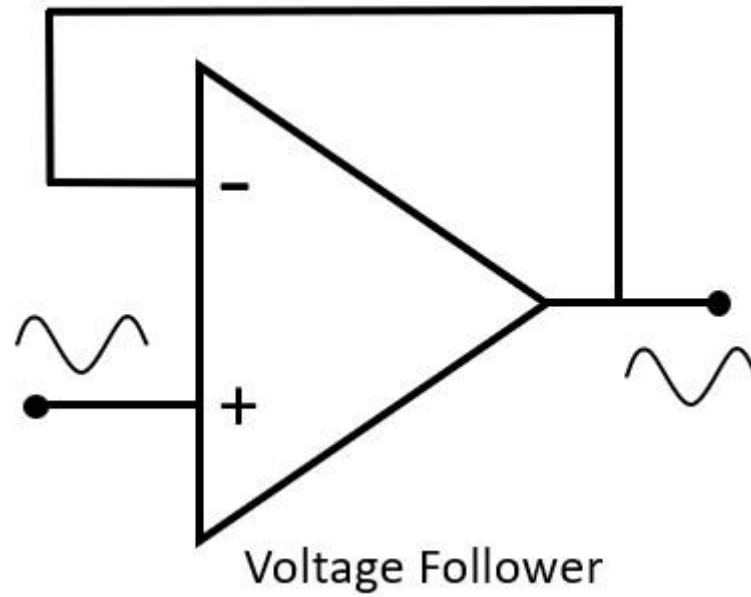

Figure 2: Voltage Follower.
1. The Voltage Follower, also known as a unity gain amplifier, buffer amplifier, or isolation amplifier. This circuit is used as a buffer because it draws very little current due to the high input impedance of the amplifier, which eliminates loading effects on the preceding input circuit. The Op Amp has a gain of 1 so the output is the same as the input (Figure 2). **TIP:** Review the Golden Rules.